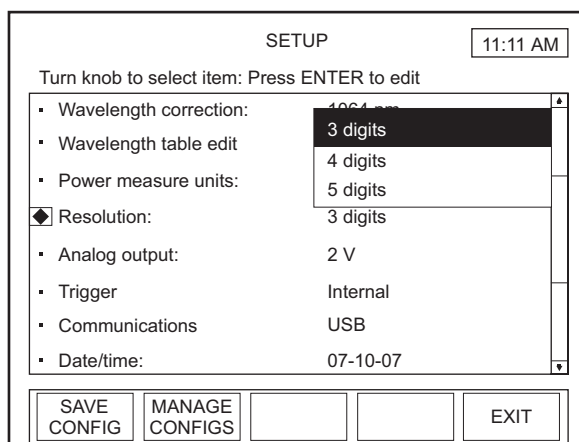

Figure 60. SETUP: Resolution
2. Press the ENTER/SET button to display a dropdown list of available resolutions (similar to the list shown in Figure 60, above).